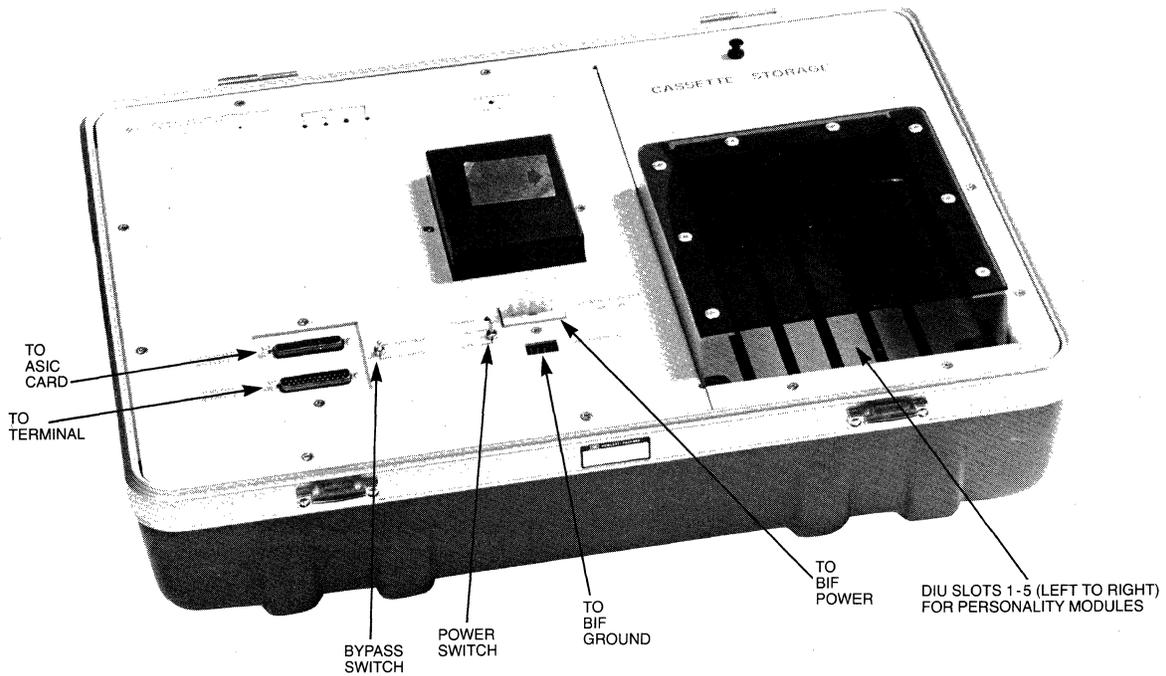

Figure 4-1. DIU Connectors and Switches
- 4) Connect the ASIC card to the CONTROLLER INTERFACE connector on the DIU, using cable 12005-60003. (See figure 4.1)